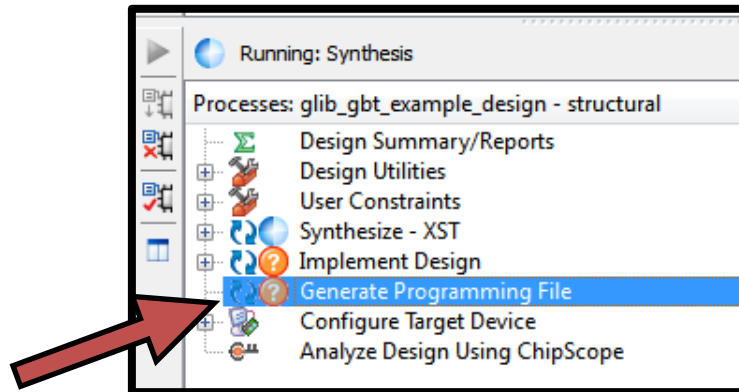

Figure 32: Processes running after clicking on "Genera Programming File"
14. Double click on the "Generate Programming file" process so the project will be synthesized and implemented as well as the programming file (.bit) generated. You should see a blue sphere spinning near the process that is running (see Figure 32).